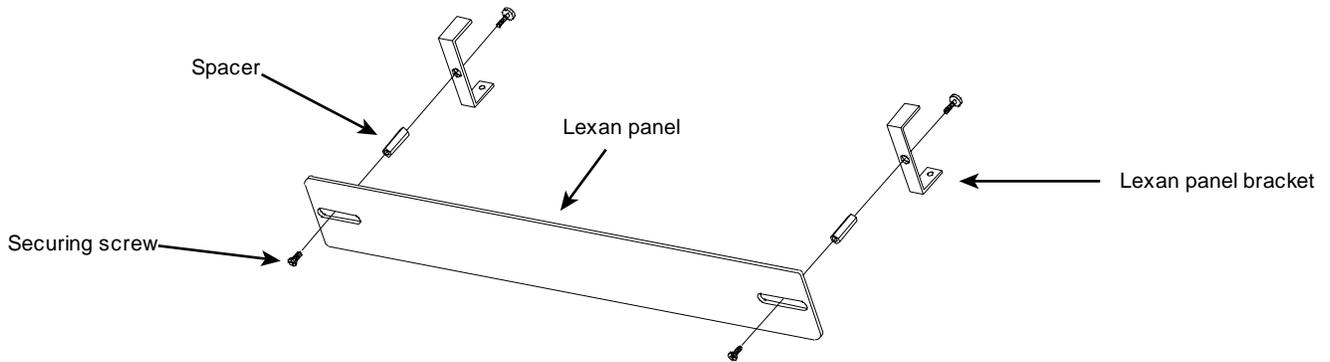

Fig. 6.11.1.1. Lexan panel assembly
2. Attach the Lexan cover to the mounting clips and connect to the hinged panel. (See Figure 6.11.1.1.)